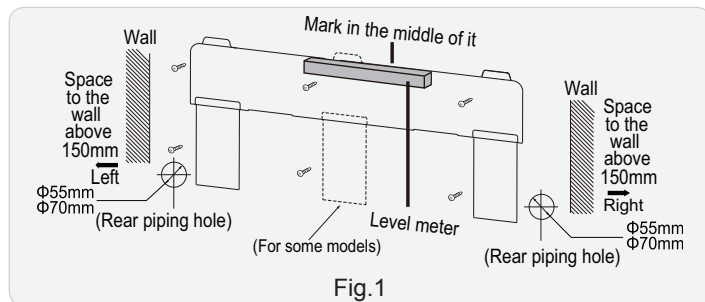

Fig.1
(1) Choose the position of piping hole according to the direction of outlet pipe. The position of piping hole should be a little lower than the wall-mounted frame, shown as below. (As show in Fig.1)